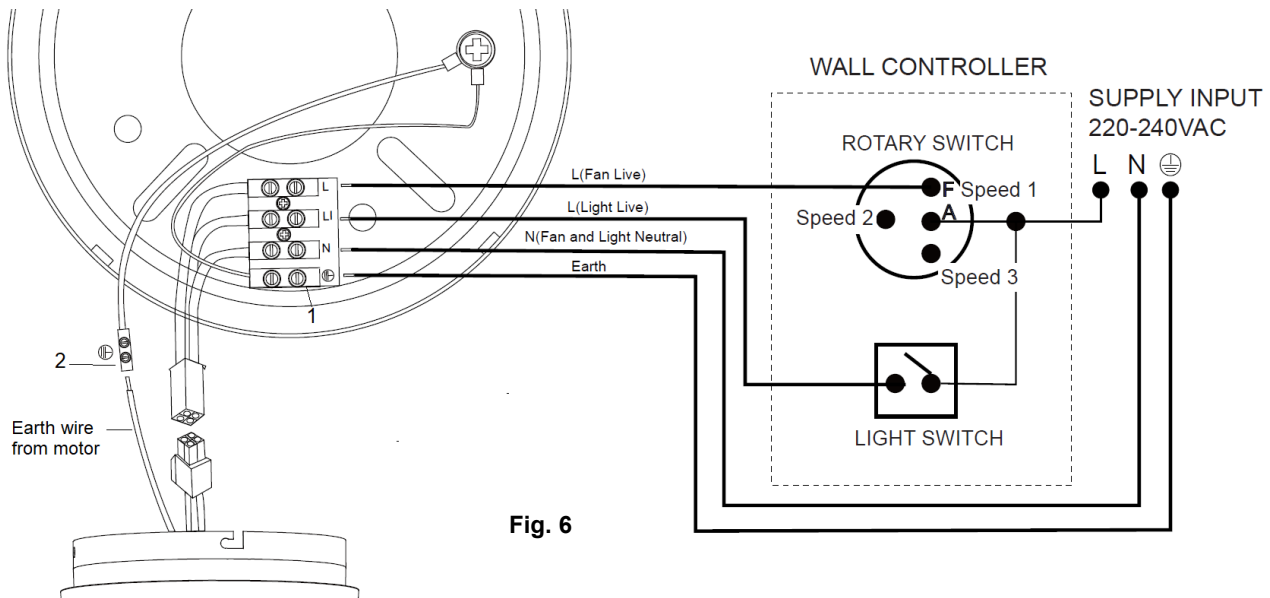

Fig. 6
- Complete the electrical wiring using the diagram below (Fig.6).
Ensure the motor earth wire is connected to the single earthing terminal block "2" in the diagram below. (Fig. 6)